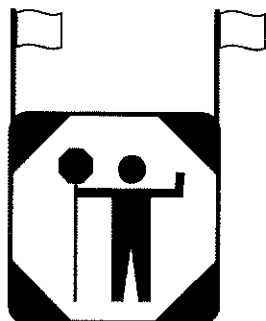

Figure 29-2: Sign Indicating TCP Ahead
- Place the TRAFFIC CONTROL PERSON AHEAD sign at an appropriate distance to afford motorists adequate warning (Figure 29-2).